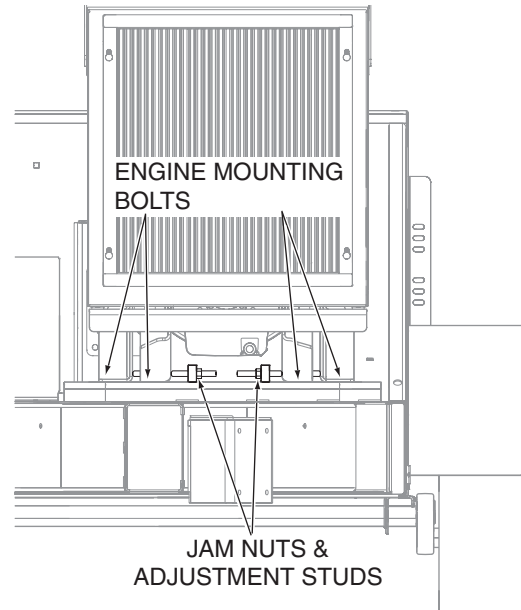

Figure 5-2. Impeller Drive Belt Tension
3. To adjust the impeller drive belt tension, loosen the four engine mounting bolts. See Figure 5-2.
4. Loosen the jam nuts on all four adjustment studs. See Figure 5-2.